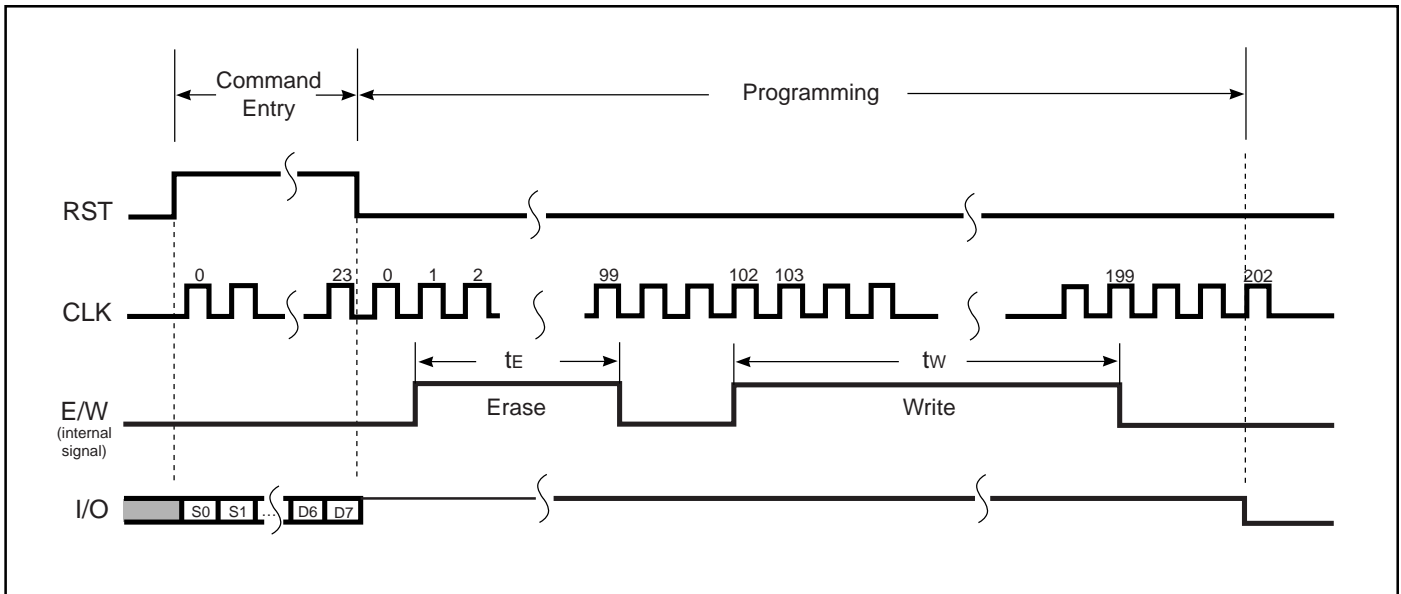

Figure 8. Programming Erase and Write
1. Erase and subsequent write if 203 clock pulses at  $f < 20$  KHz are applied. (See Figure 8.)
The write/erase data byte with protect bit command operates similarly to the write/erase data byte without protect bit command except that it also writes 0 to the corresponding protect bit. After the protect bit is set to 0 (write protection enabled), it cannot be changed again. (See Figures 8 and 9.)